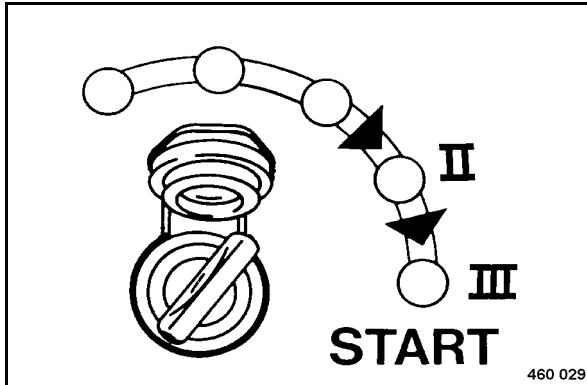

Fig. 51
- Turn the ignition key (Fig. 51) through position "II" to position "III", the starter will crank the engine.